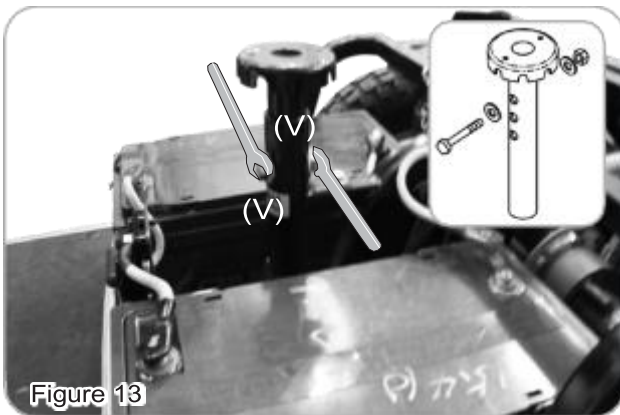

Figure 13
2. Remove screw, nut and washer from seat post (V). (Figure 13)
3. Adjust seat post (V) to desired height and attach tightly with screw, nut and washers. (Figure 13)